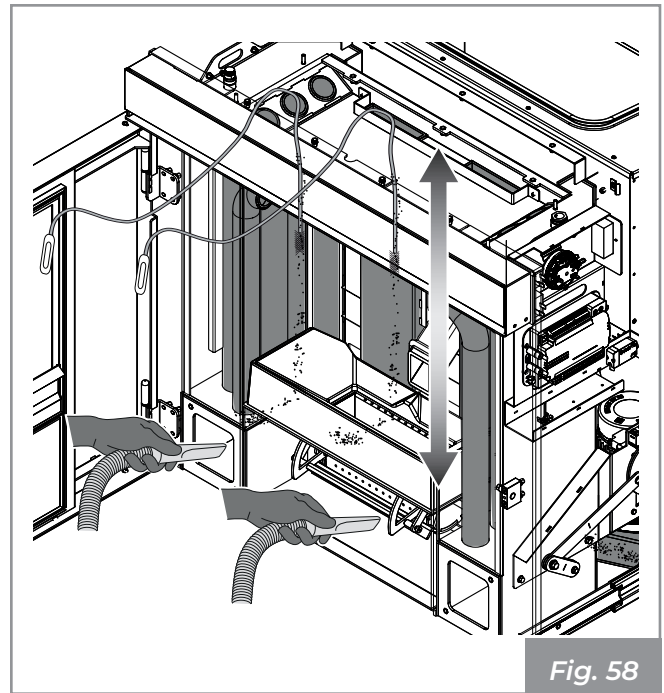

Fig. 58
- Use a flexible brush to clean the exchanger pipes in the combustion chamber (**Fig. 58**)